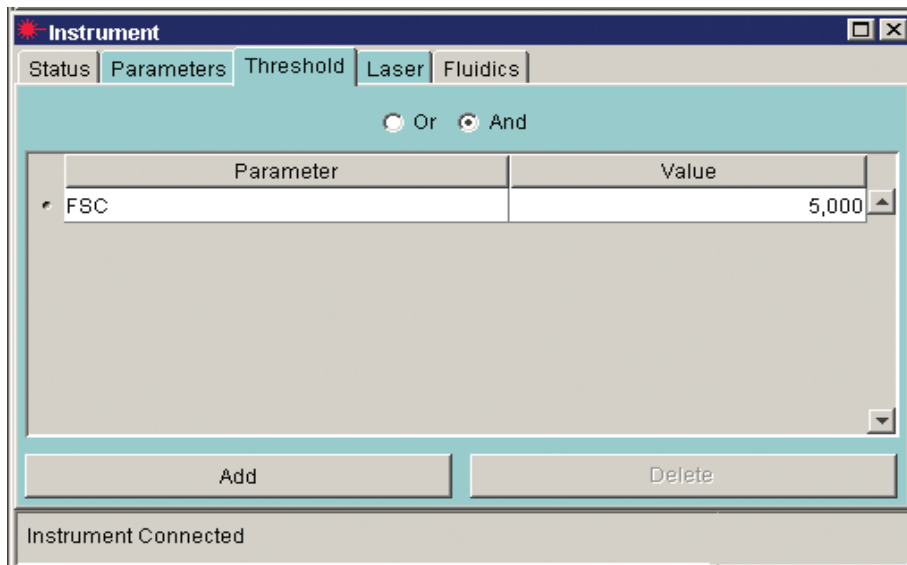

Figure 13
- Click the Threshold tab in the Instrument frame to display the Threshold pane (Figure 13).